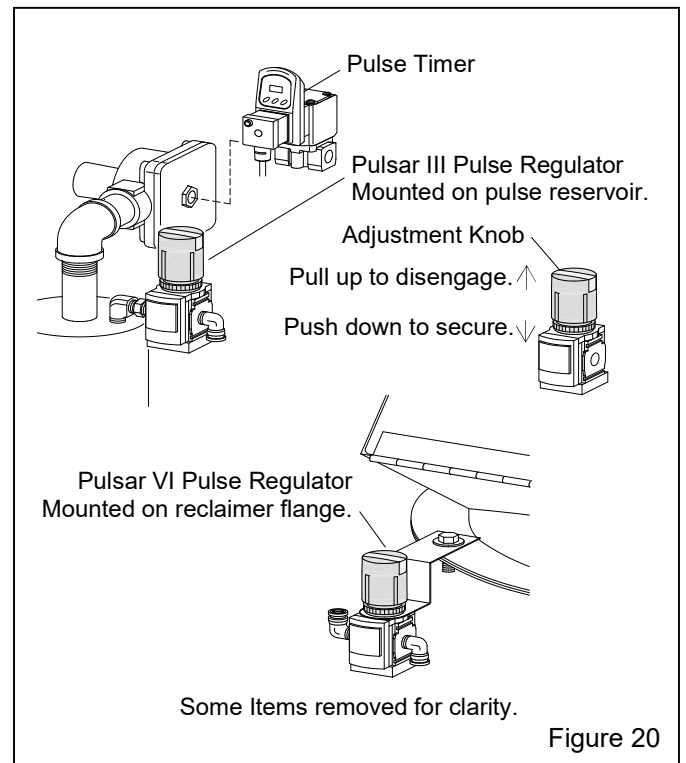

Figure 20
5.8 Dust-Collector Pulse Pressure – Figure 20
5.8.1 Adjust pulse pressure using the regulator located on the power module, as shown in Figure 20.
5.8.2 Begin pulsing at 60 psi. To adjust pressure, pull up on the knob; a short snap as the knob is pulled up disengages it, as shown in Figure 20. Turn the knob clockwise to increase pressure or counterclockwise to decrease pressure. Once operating pressure is set, push down on the knob to secure it and maintain the setting.
The pulse timer is attached to the diaphragm pulse valve located on the dust collector pulse reservoir, as shown in Figure 20.